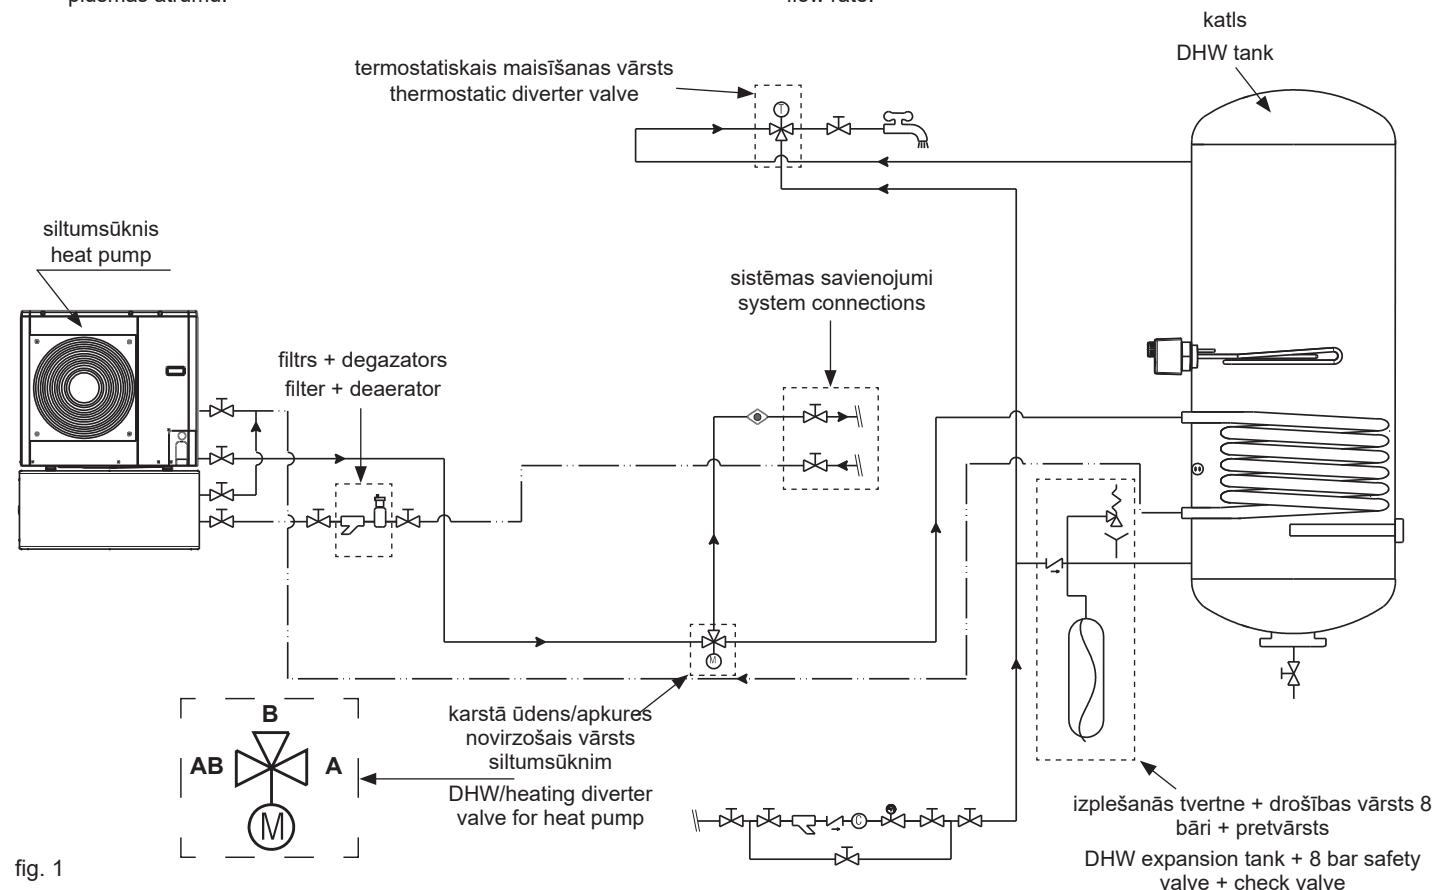

fig. 1
- Position the diverter valve as indicated in the hydraulic diagram (fig. 1).